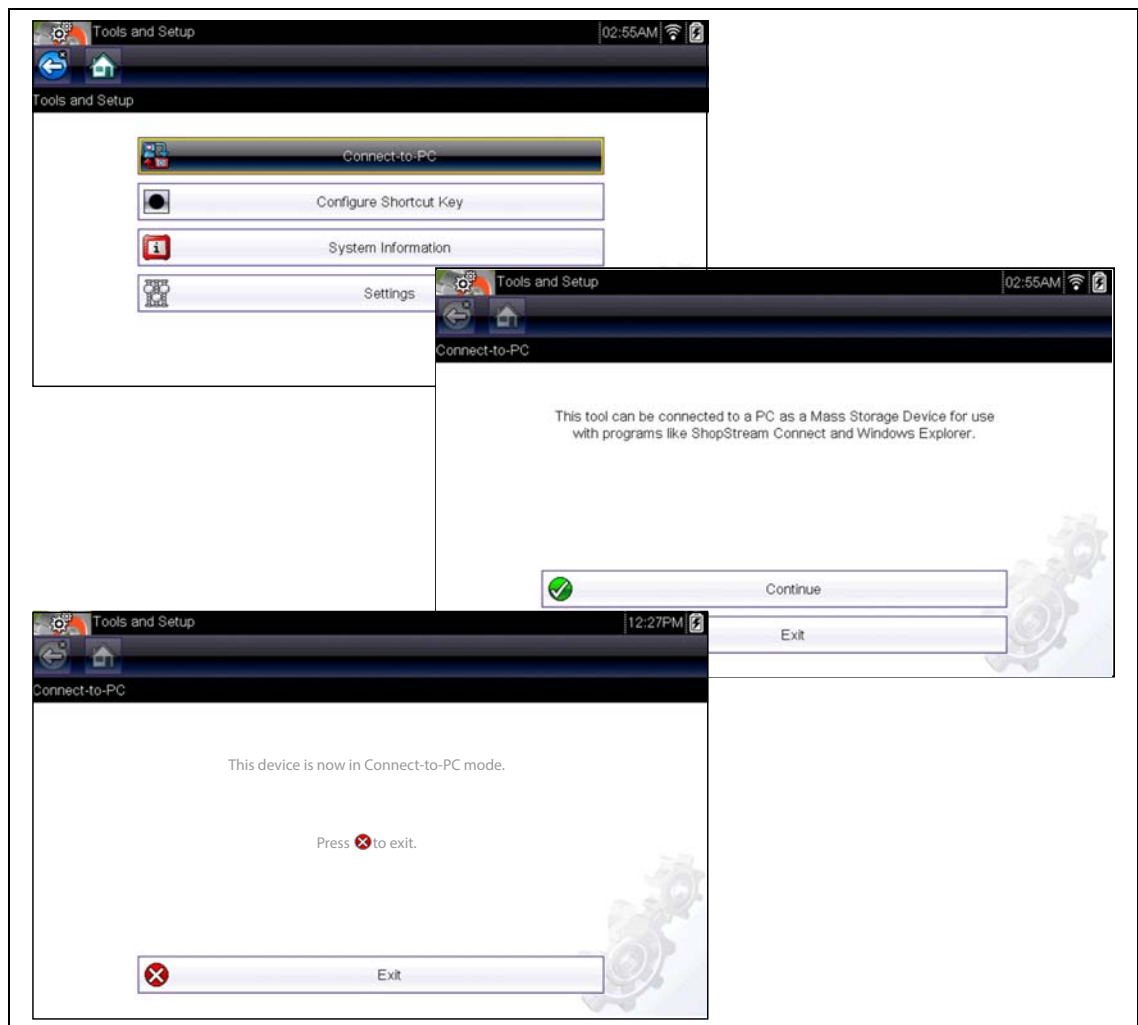

Figure 4-1 Connect-to-PC screens
3. From the Home screen, select **Tools > Connect-to-PC** (Figure 4-1 upper left).
4. Select **Continue** (Figure 4-1 right center).
The now in Connect-to-PC mode screen displays (Figure 4-1 lower left).
To Stop communication select **Exit** (Figure 4-1 lower left).